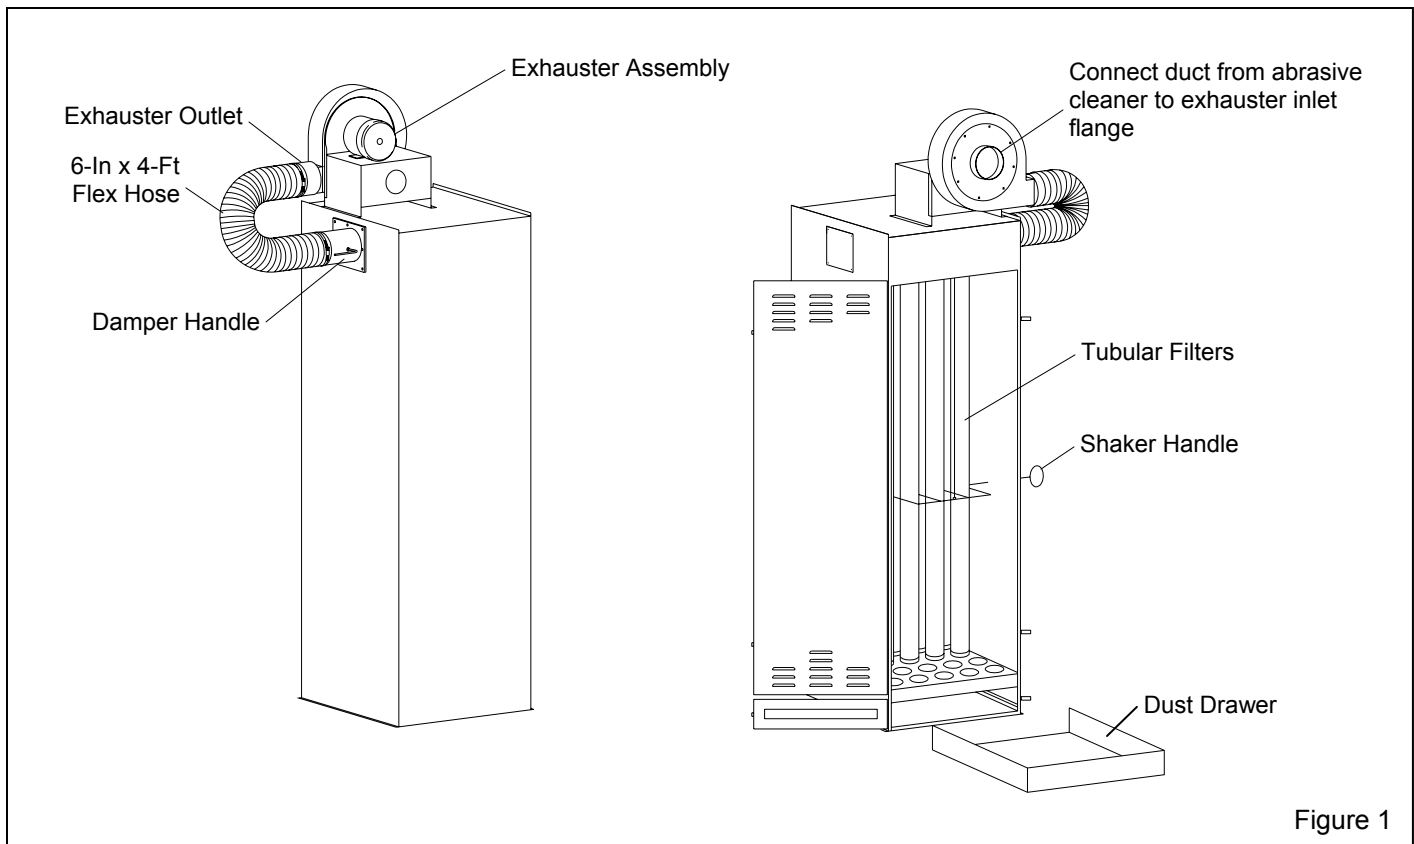

Figure 1
1.3.1 The dust collector is designed to ventilate Clemco's abrasive cleaner, when it is not possible or practical to connect the abrasive cleaner to blast room's ventilation dust collector. The collector is intended for light duty applications when using non aggressive abrasive. The general arrangement of the C-600 is shown in Figure 1.
**3.2.1** Set the damper fully open. Fully open is when the handle is in line with the inlet as shown in Figure 1.